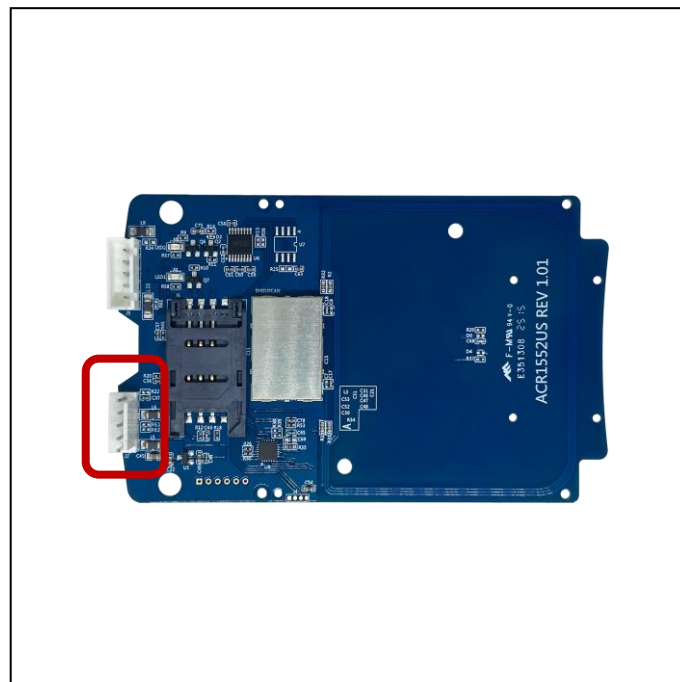

Figure 1: ACM1552D via USB Interface
1. Connect socket **J2** via USB cable to another peripheral device (see Figure 1).